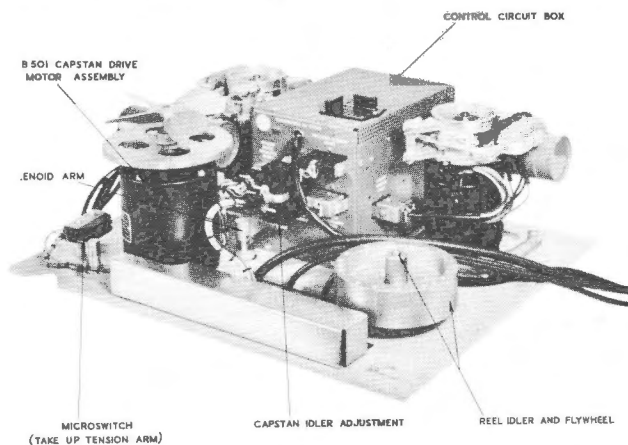

figure 5-6 — Tape Transport Underside Parts Location
The capstan idler is forced against the capstan by the action of capstan solenoid K501. Idler pressure is supplied by the capstan idler pressure spring, and is adjusted by a lock nut on the capstan solenoid spade bolt. (See figure 5-6.) Tightening the lock nut increases idler pressure until a point is reached where the solenoid will not bottom. At this point, idler pressure drops to a value which is inadequate to permit the capstan to drive the tape, and slip will occur unless the nut is backed off. Excessive pressure also throws an unnecessary load on the upper sleeve bearing of the drive motor. The recommended procedure for adjusting idler pressure is as follows:—
- Step 8:** Now, slowly pull the scale away with sufficient power to cause the capstan idler to leave the capstan, reading the scale at the instant the capstan idler leaves the capstan. The scale reading should be 5 lb $\pm \frac{1}{2}$ lb. If necessary, adjust the capstan pressure at the point shown in figure 5-6.